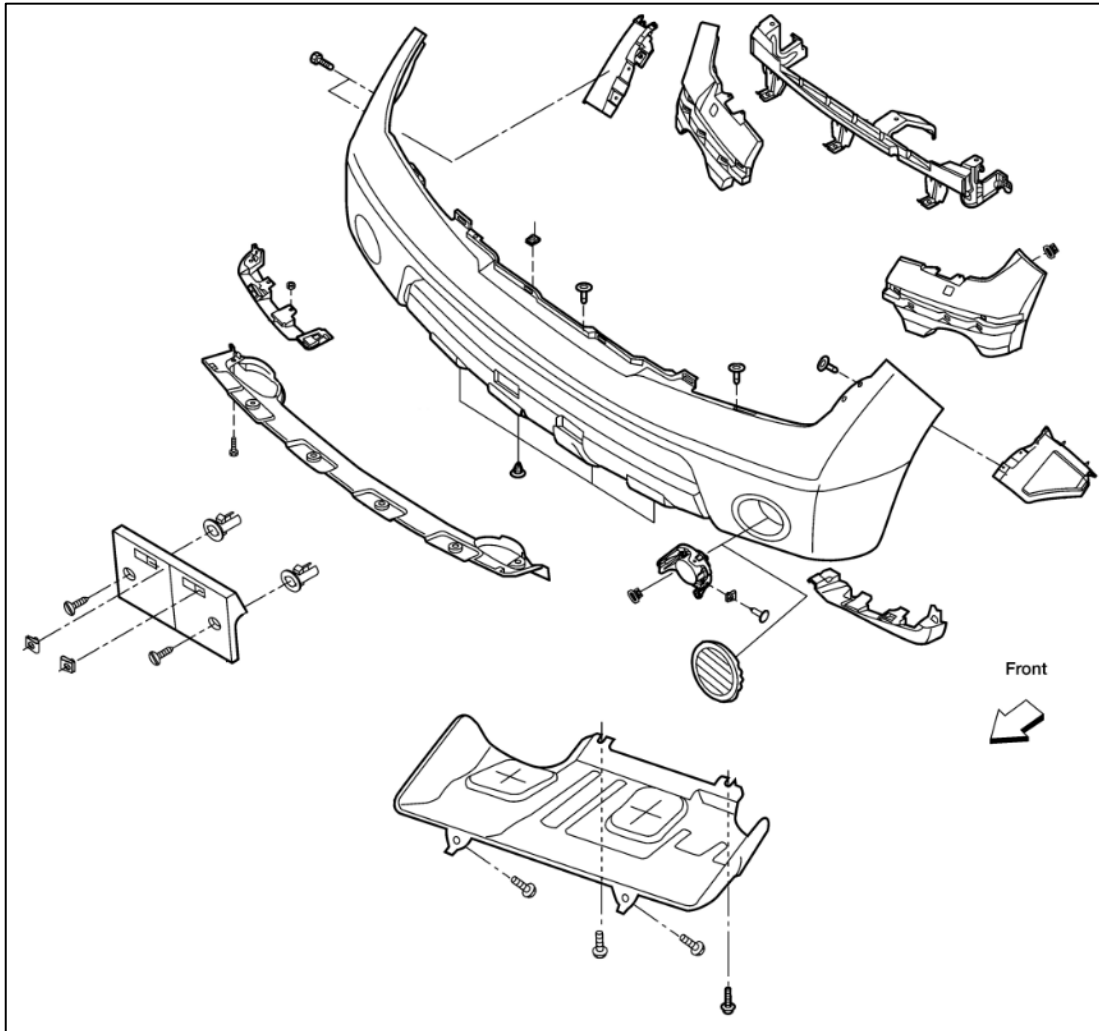

Figure 2
7. Remove the Front Bumper and OEM Crash Bar Assembly. Use *Figure 2* below to locate the mounting screws and tabs that hold these pieces on. Retain the hardware as it will be reused.
41. Reinstall the Front Bumper, use *Figure 2* in *Step 7* for fastener locations.